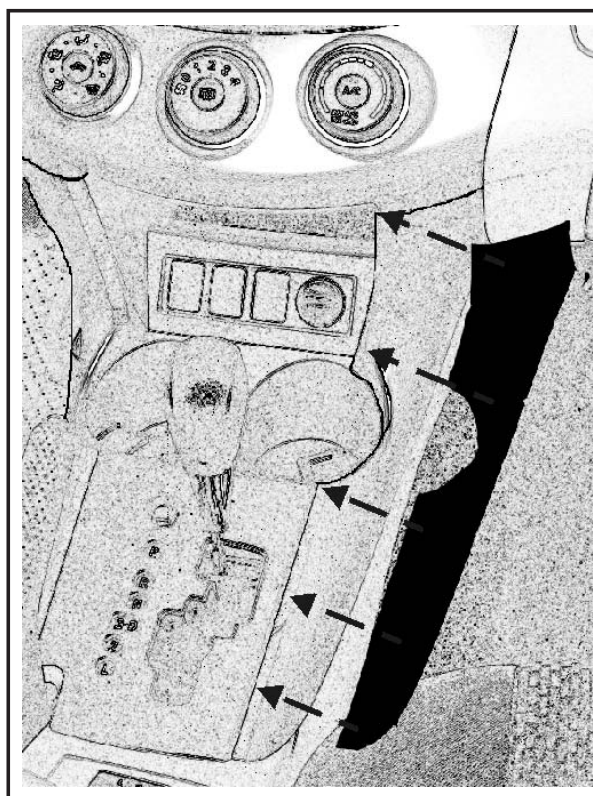

Fig. E1
- A. Align part uniformly to edge of factory components. Edge of appliqué should be flush to edge of factory component, $\pm 1.0\text{mm}$. (Fig. E1).